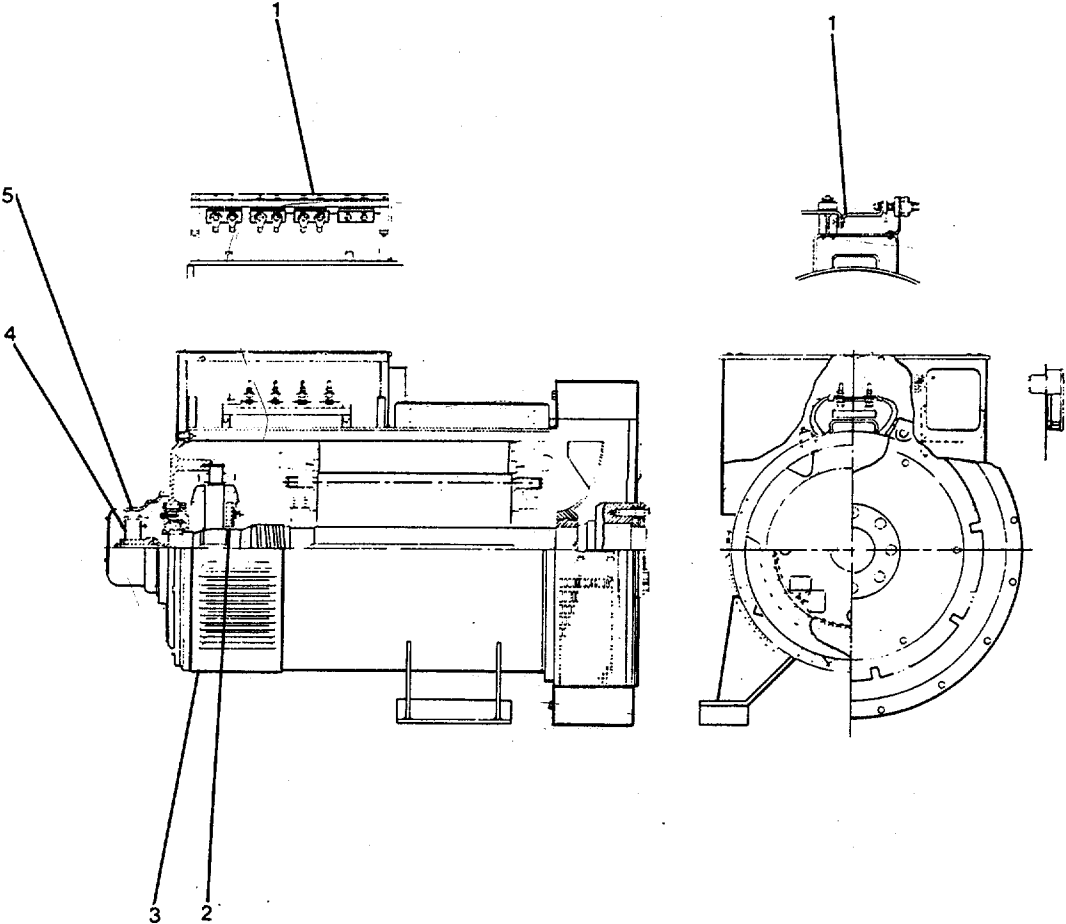
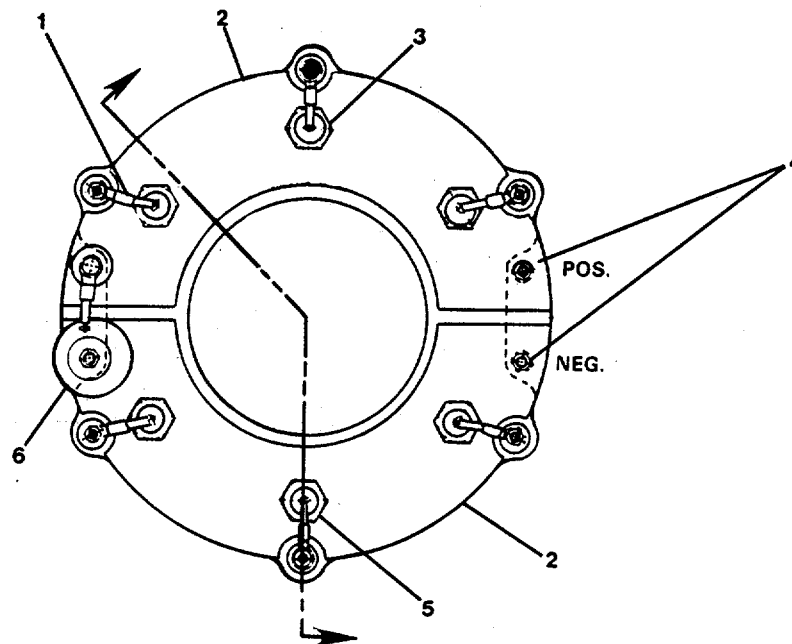

FIGURE 3-3. Generator Assembly.
FIGURE 3-6. Rectifier Assembly.
the windings and rectifier assembly (1, Figure 3-3) and the
- (2) Using a multimeter, measure the dc voltage at leads X and XX. The voltage must read between 12.0 to 13.2 volts.
- (3) Using a multimeter, check the output from the main stator terminals on the main terminal board (1, Figure 3-3).
- (b) If an unbalance is shown on any phase of more than 1 percent, this indicates that a fault exists in the main stator windings. Check the main excitation windings (step (5) of this procedure).
- (4) With the generator set shut down and cool, and electrical power OFF, check the rectifier semiconductors. The rectifier assembly (Figure 3-6) is split into two plates, positive and negative, and the main rotor is connected across these plates. The positive plate has three positive semiconductors, and the negative plate has three negative semiconductors.
(b) Disconnect the flexible lead to each semiconductor (1, Figure 3-6) and check the forward and reverse resistance. Use a multimeter on the 10,000 ohms scale and check the semiconductor resistance.
(c) Check the varistor (6, Figure 3-6) surge suppressor using a multimeter. The varistor is connected across the two rectifier plates to prevent reverse voltages from damaging the semiconductors.
- (b) Check the exciter rotor resistance. The exciter rotor is connected to the six studs on the rectifier assembly where the six semiconductor leads are connected (3, 5, Figure 3-6). All six rotor leads must be disconnected and resistance measured between the forward and reverse leads to the rotor. Refer to Table 3-2.
- (c) Check the main rotor resistance. The main rotor winding is connected across the two plates on the rectifier assembly (4, Figure 3-6). Disconnect the two leads and measure the resistance between the leads. Refer to Table 3-2.
- (6) Check the automatic voltage regulator sensing supply from the main stator.
- (a) Separately excite the generator as described in step (1) of this procedure.
- (c) Check the voltage on leads 2 and 3 which were disconnected and tagged from the automatic voltage regulator in step (1) of this procedure. The voltage should be between 10 and 16 volts dc.
- (7) Test the permanent magnet exciter. The permanent magnet exciter (4, 5, Figure 3-3) is on the non-drive end of the generator and is isolated from all other windings. It is the main power supply to the voltage regulator and must be tested independent of the other windings.
- (1) Turn off and tag all starting circuits to the generator set.
- (2) Remove the non-drive end covers (3, Figure 3-3) for access to the rectifier assembly (2)
- (3) Disconnect the terminal leads on positive semiconductors (3, Figure 3-6) and/or negative semiconductors (5) as appropriate.
- (4) Remove faulty semiconductors.
- (1) Apply a small amount of silicone heat sink compound to the underside of each semiconductor. Ensure no compound gets on the threads.
- (2) Install the new semiconductor (3, 5, Figure 3-6) and tighten to 36-42 in-lb (4-4.8 N-m) torque. Connect the terminal leads and remove tags.
- (3) Replace the non-drive end covers (3, Figure 3-3).